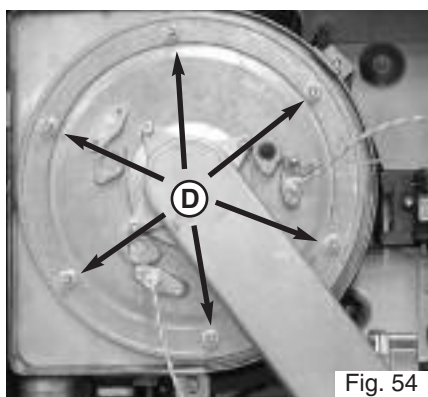

Fig. 54
6. Unscrew the 6 nuts **D** on the combustion chamber (Fig. 54);